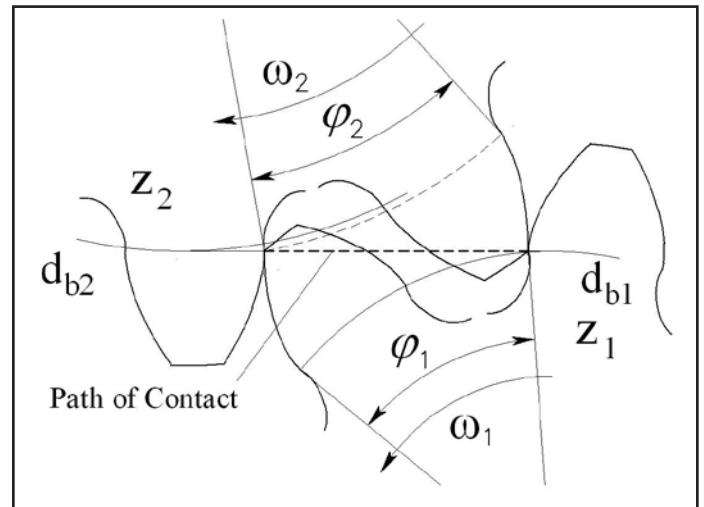

Figure 5 Pinion and gear engagement angles.
- φ_1 and φ_2 – pinion and gear engagement angles (Fig. 5)